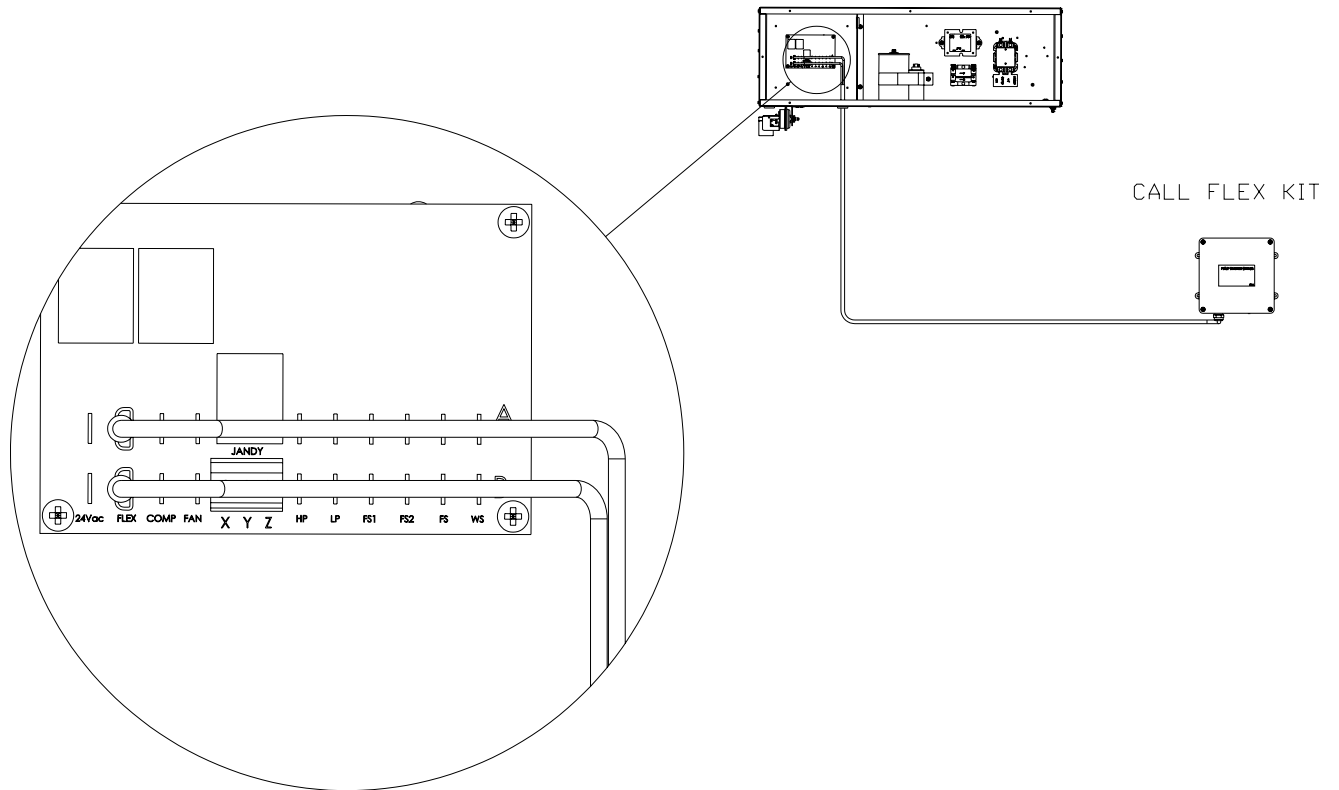

FIGURE 1
4. Locate the Microprocessor Power Board inside the electric box. (see figure 1)
Connect the cable with female quick disconnects already attached to the terminals marked FLEX A and B on the Microprocessor Power Board. (see figure 1)